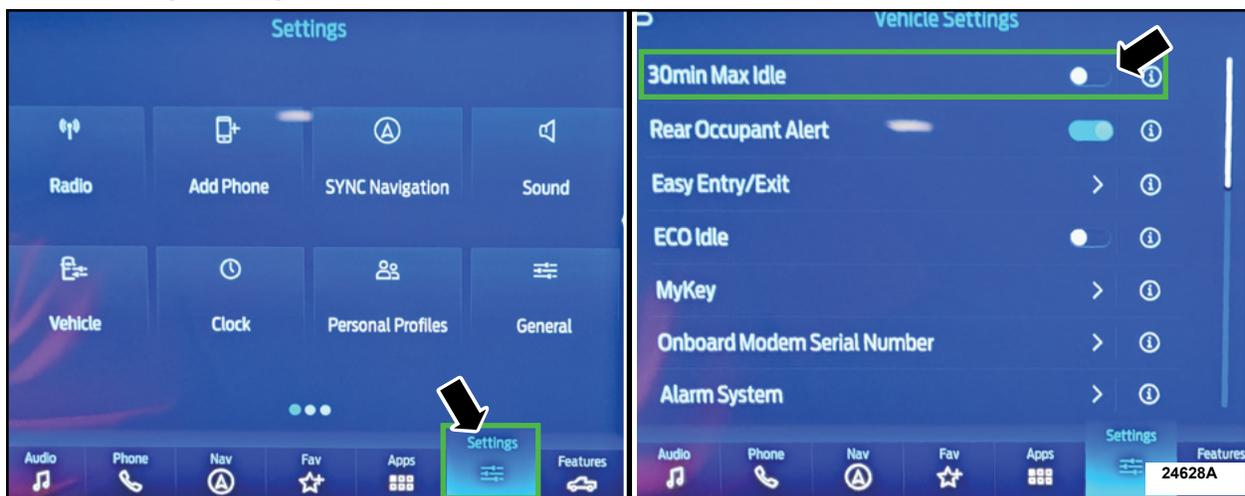

FIGURE 2
• From the center display press the vehicle settings button and turn off the 30min Max Idle option setting. See Figure 2.